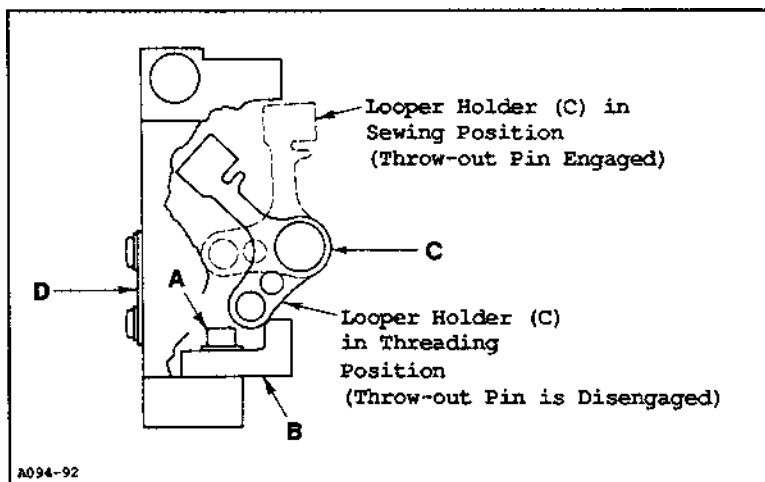

Fig. 4
Turn the handwheel in operating direction until the needles are at their highest position. Loosen screw (A, Fig. 4) and adjust looper holder rest (B) front to back so looper holder (C) will stop against rest (B) when the looper throw-out pin is disengaged. Check the position of the loopers and needle guards to make sure they do not contact looper thread eyelet (D).